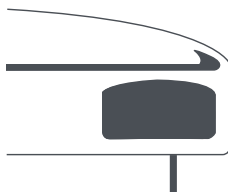

Fig. 11
Safety window (6). This is a part of the safety systems built into your Fagor cooker. If the working/pressure regulator valve (3) and the safety valve (7) are obstructed due to overfilling the pot, for example, and an overpressure is generated inside it, steam will be released through the safety window (6) on the edge of the lid (1) (Fig. 11).